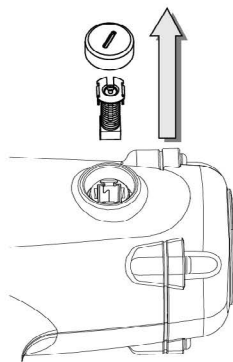

Fig. 6
2. Take out the carbon brush (Fig. 6).